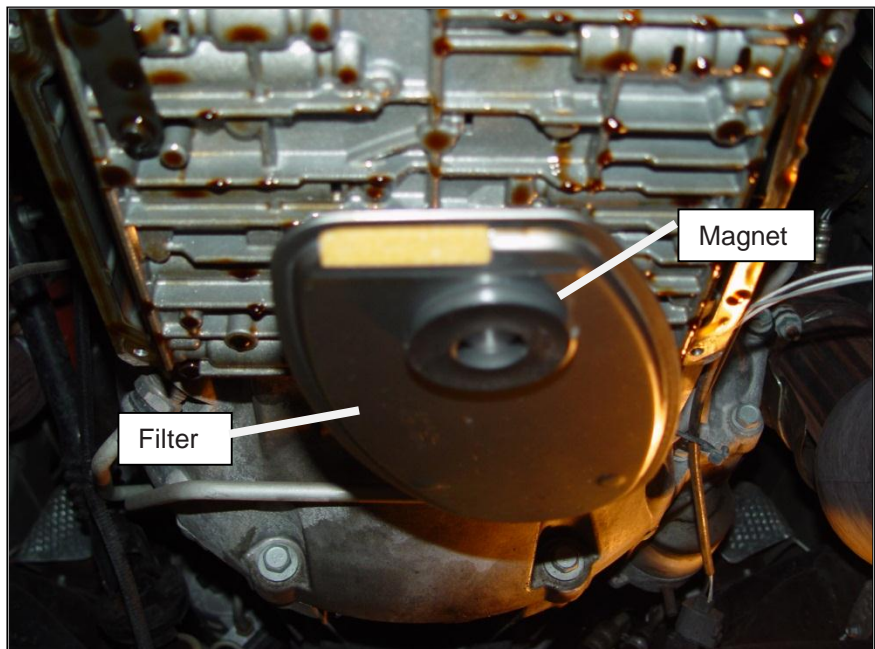

Figure 5
STEP 10. Stick the magnet removed earlier on the bottom of the transmission filter as shown (See Figure 5).